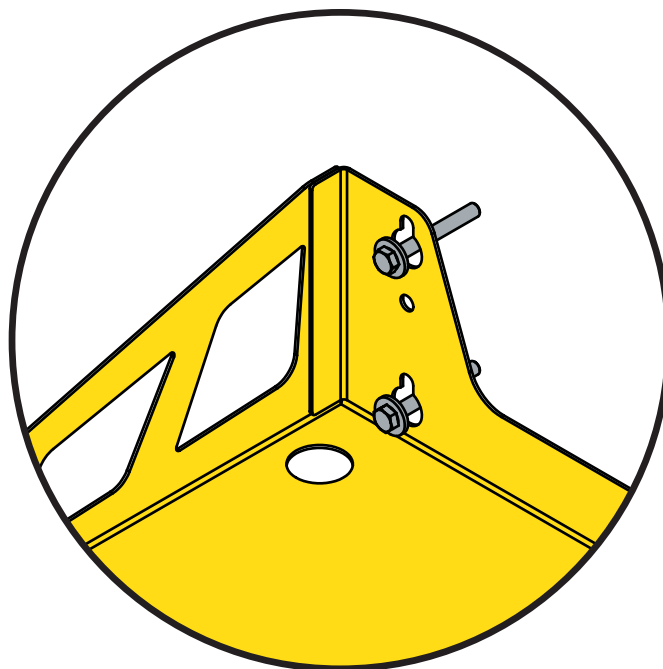

FIG. 6
Lift the Wall Bracket (F) up and over the fasteners so that the washer is on the inside of the bracket [FIG 6].